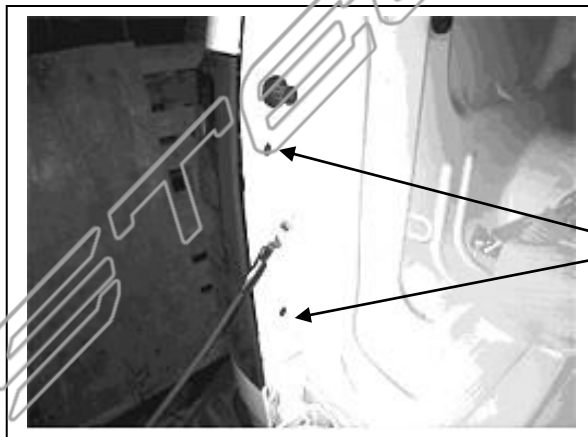

FIG. 1
- Open tail gate and remove the two drive's side black Phillips head screws that hold taillight assembly in place. (Fig 1) Set the two screws aside, as they will be reused in the guard and taillight assembly reinstallation.